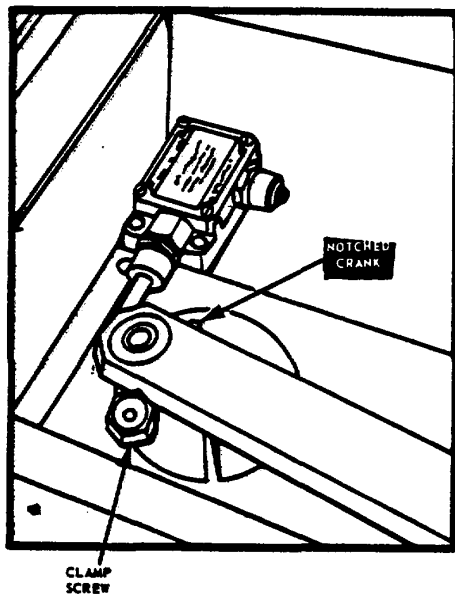

FIGURE 17
- a. See Figure 17. Loosen flat head Clamp Screw, move Notched Crank to Pin "A", and tighten Clamp Screw.